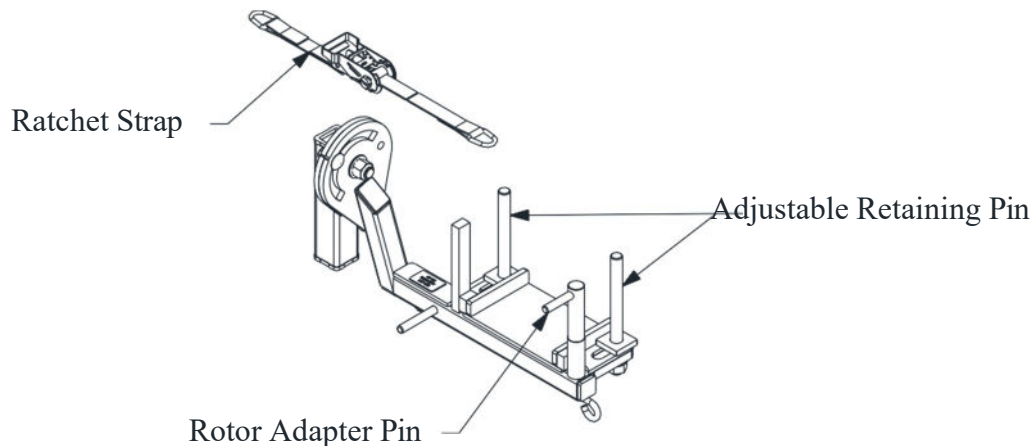

Figure 3
5. Adjust the width of the rotor adapter adjustable retaining pins to accept the rotor into the adapter and tighten the nuts on the bottom of the rotor adapter once the correct width is determined, as shown in Figure 3.
6. Position the Disc Brake Dolly with Rotor Adapter under rotor/wheel end assembly. It may be necessary to remove the rotor adapter pin (shown in Figure 3) on the adapter to position the Disc Brake Dolly under the rotor and hub assembly. Close release on the manual power unit. Once under the rotor, raise the Disc Brake Dolly with the manual power unit until it contacts the rotor and hub assembly. Replace the rotor retaining pin in the socket tube on the rotor adapter.